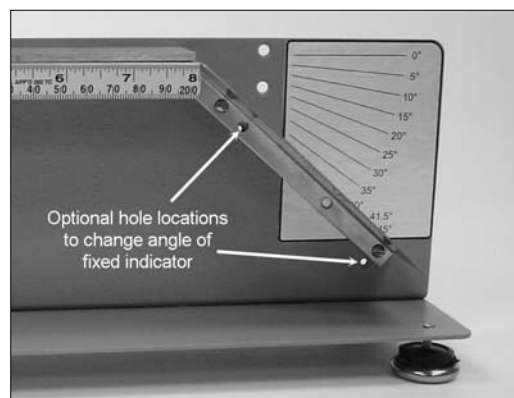

Figure 5
2. Determine the appropriate angle for your test and position the bend angle indicator accordingly. The angle can be changed by removing and repositioning the two fastening screws (see Figure 5).